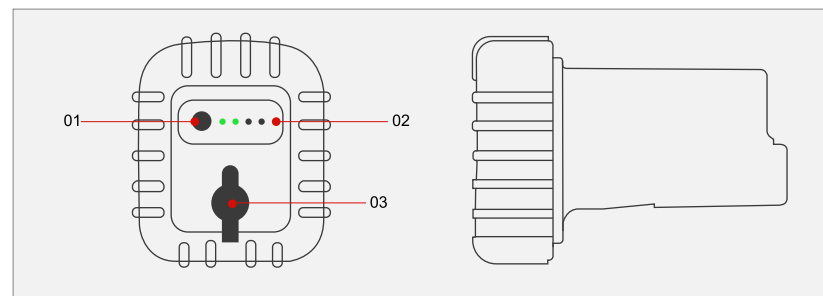

Fig. 4
- The back of the battery pack consists of a battery power display key and four LED lights (see Fig. 4).